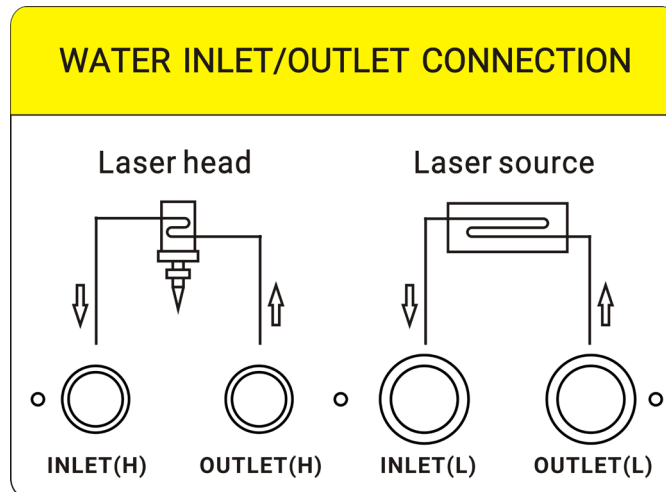

Figure 6: Water chiller to laser connection diagram
- (3) Pipeline Connection: The method of connecting the chiller and the laser machine is illustrated in Figure 6. The inside diameter of the piping should not be smaller than the chiller's inlet and outlet pipe diameter. If the inside diameter of the piping is smaller than required, the approval of the chiller manufacturer should be obtained.